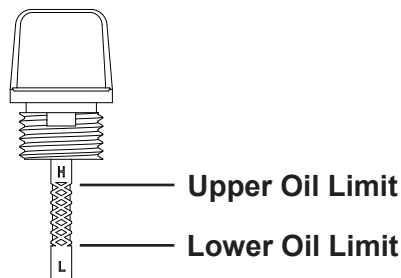

Fig. 16
4. Remove the dipstick from the filler neck and check the oil level. Oil level should be at the upper oil limit on the dipstick (Fig. 16).